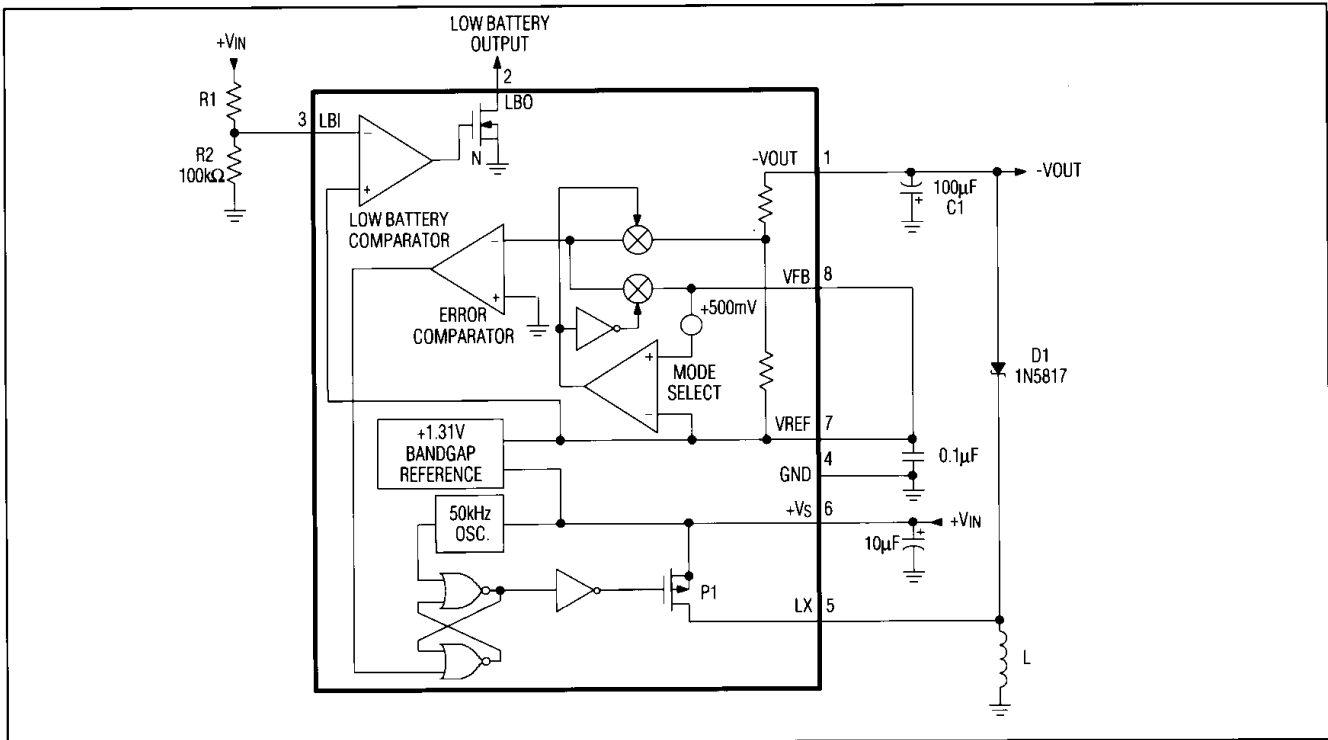

Figure 2. MAX635/636/637 Block Diagram and Typical Circuit (Table 2)
Figure 2 shows the standard circuit for converting a positive voltage into a negative one. When the output becomes more positive than the preset level, the Error Comparator switches low, and the MOSFET at LX is toggled on and off at the clock frequency. During the low-going period of the oscillator, P1 is on, and current is delivered to the external inductor through the LX pin.
Table 1 lists some coil manufacturers and typical part numbers. Table 2 shows nominal inductor parameters for a variety of input and output voltages. The data refers to the circuit of Figure 2. When noise is not critical, a
**Note 4:** Permag Corp. is a distributor for many of the listed core and toroid manufacturers (516) 822-3311.
**Table 2. Inductor Selection for Common Designs (Figure 2)**
The Low Battery Output, LBO, sinks current whenever the input voltage at Low Battery Input, LBI, is less than +1.31V. LBI is a high impedance CMOS input, with less than 10nA leakage current. LBO is an open drain N-channel MOSFET with about 500 $\Omega$  of output resistance. The trip voltage of the Low Battery Detector can be adjusted using an external voltage divider as shown in Figure 2. If hysteresis is desired, add a resistor between LBO and LBI.